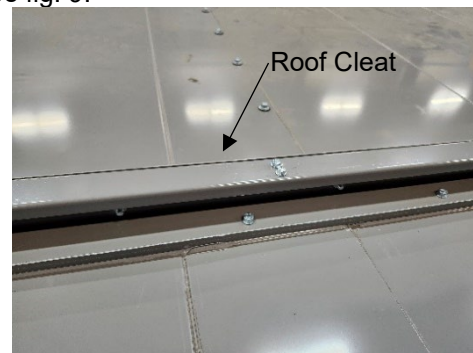

Figure 9 Roof Cleat
STEP 5: Caulk and bolt standing seam and install the roof cleat. See fig. 9.